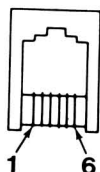

Figure 12-8. Line and Telephone Connectors
**Line Connector** — This connector supplies the necessary signals for telephone computer-to-computer communication. It connects the internal modem to the telephone company line. Refer to Figure 12-8 and Table 12-5 for the pinout.
**Telephone Connector** — This connector supplies the necessary signals for a standard telephone when the telephone company line is connected to the line connector. Refer to Figure 12-8 and Table 12-5 for the pinout.